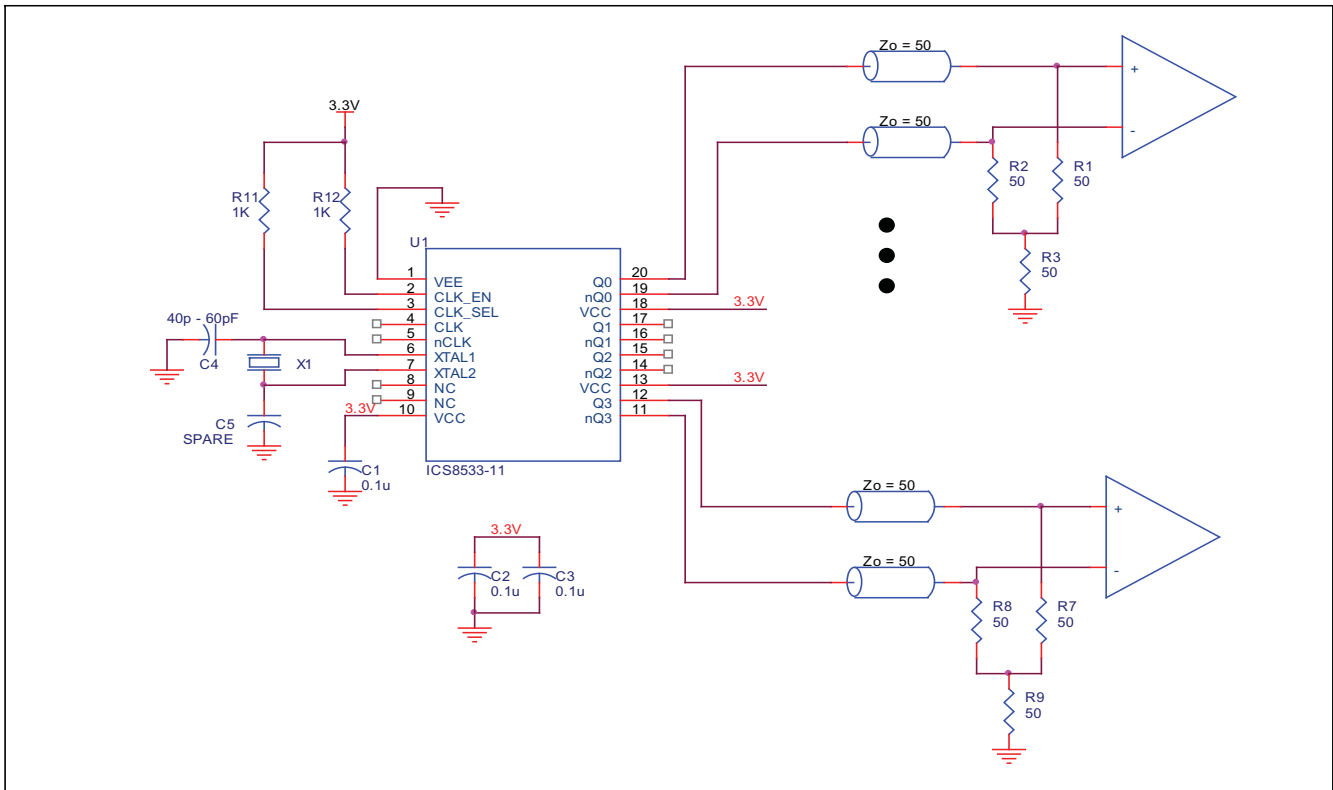

FIGURE 6. 8533-11 LVPECL BUFFER SCHEMATIC EXAMPLE
*Figure 6* shows a schematic example of the 8533-11. In this example, the XTAL input is selected. The decoupling capacitors